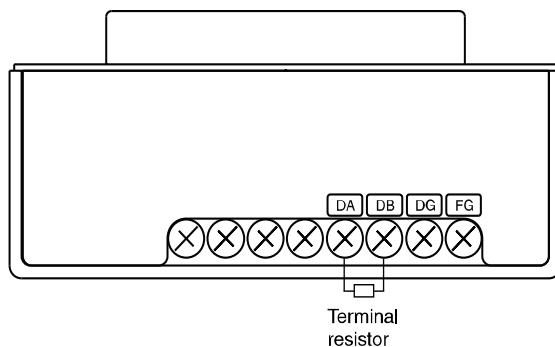

Fig.3
- (3) The appropriate terminal resistor differs depending on the CC-Link cable used (Refer to the table and Fig. 3 below.)